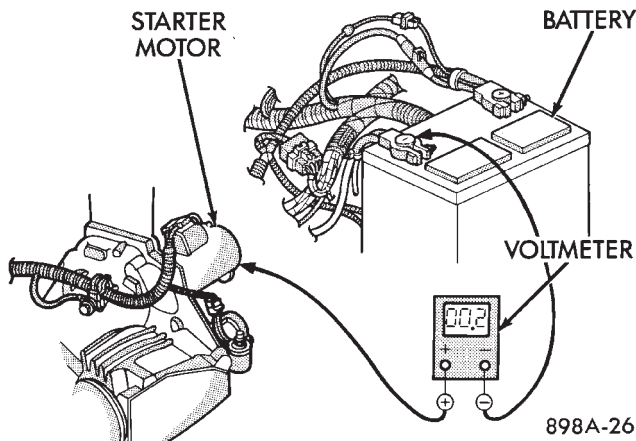

Fig. 6 Test Starter Ground (Typical)
(5) Connect positive lead of voltmeter to starter housing. Connect negative lead of voltmeter to battery negative terminal (Fig. 6). Rotate and hold ignition switch in the START position. Observe voltmeter. If voltage reads above 0.2 volt, correct poor starter to engine ground.